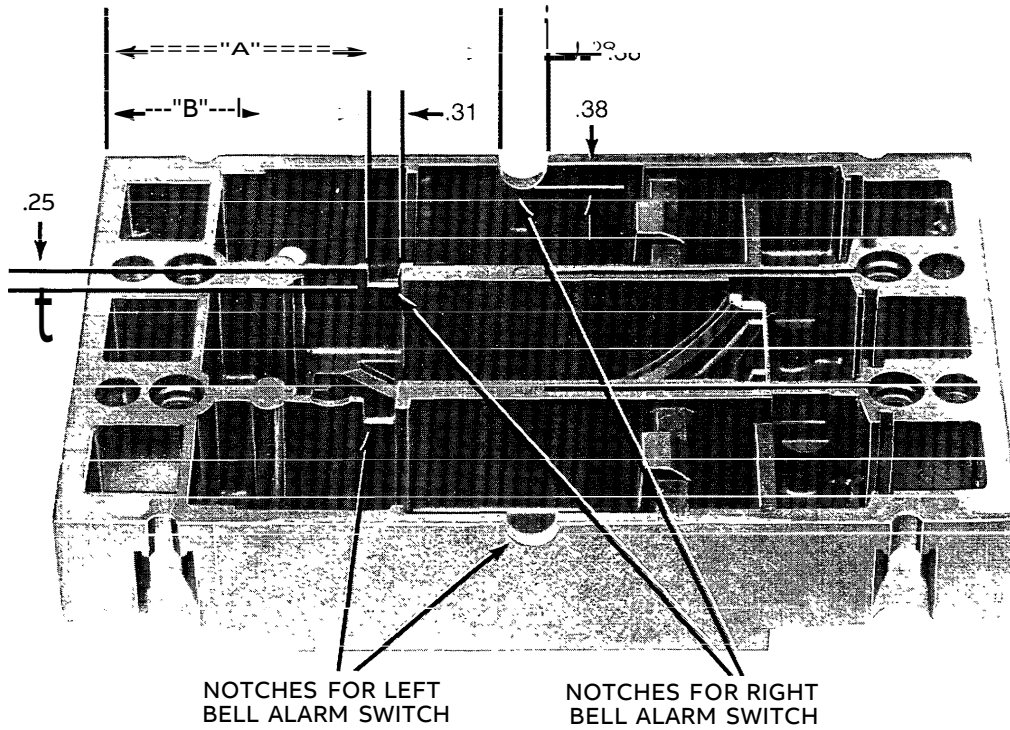

Figure 5
6. Make two notches in cover, one for lever clearance, and one for lead exit as shown in Figure 5. Affix identification label.